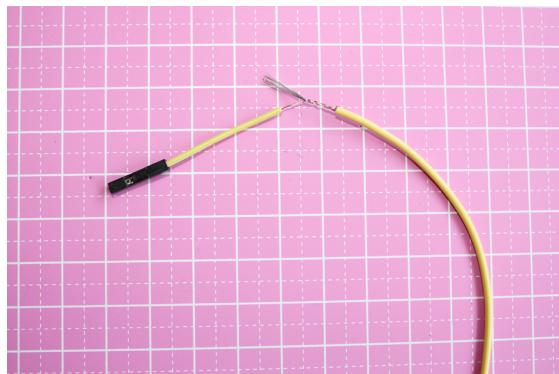

Figure 8-5 Joining wires
3. Join a half jumper wire to the matching colored length of hookup wire. An in-line splice is an effective way of joining the wires for this project: join the wires by crossing the two stripped ends together at their centers, and then wrapping each end around the other, one at a time, as in Figure 8-5.